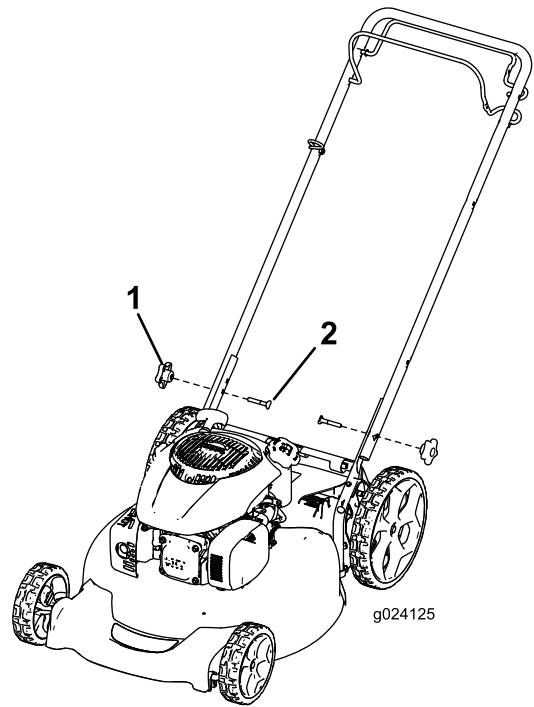

Figure 3
1. Remove and retain the handle knobs from the machine housing (Figure 3).
2. Move the handle to the operating position (Figure 3).